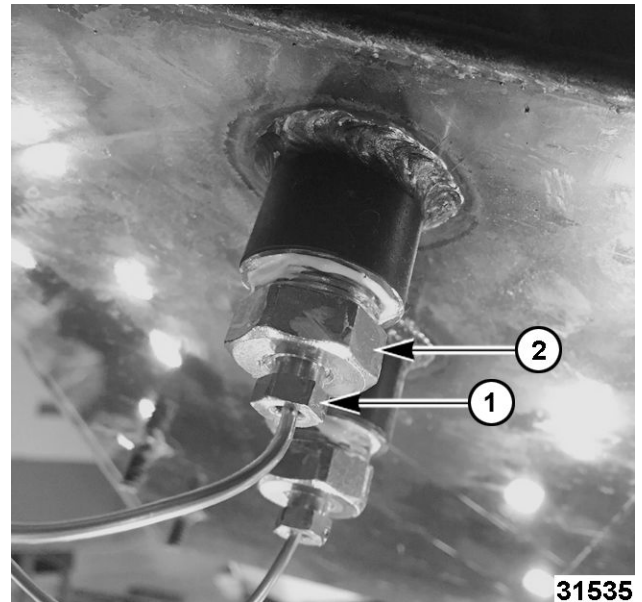

Fig. 14
6. Loosen packing nut (1, Fig. 14) and remove holding nut (2,).